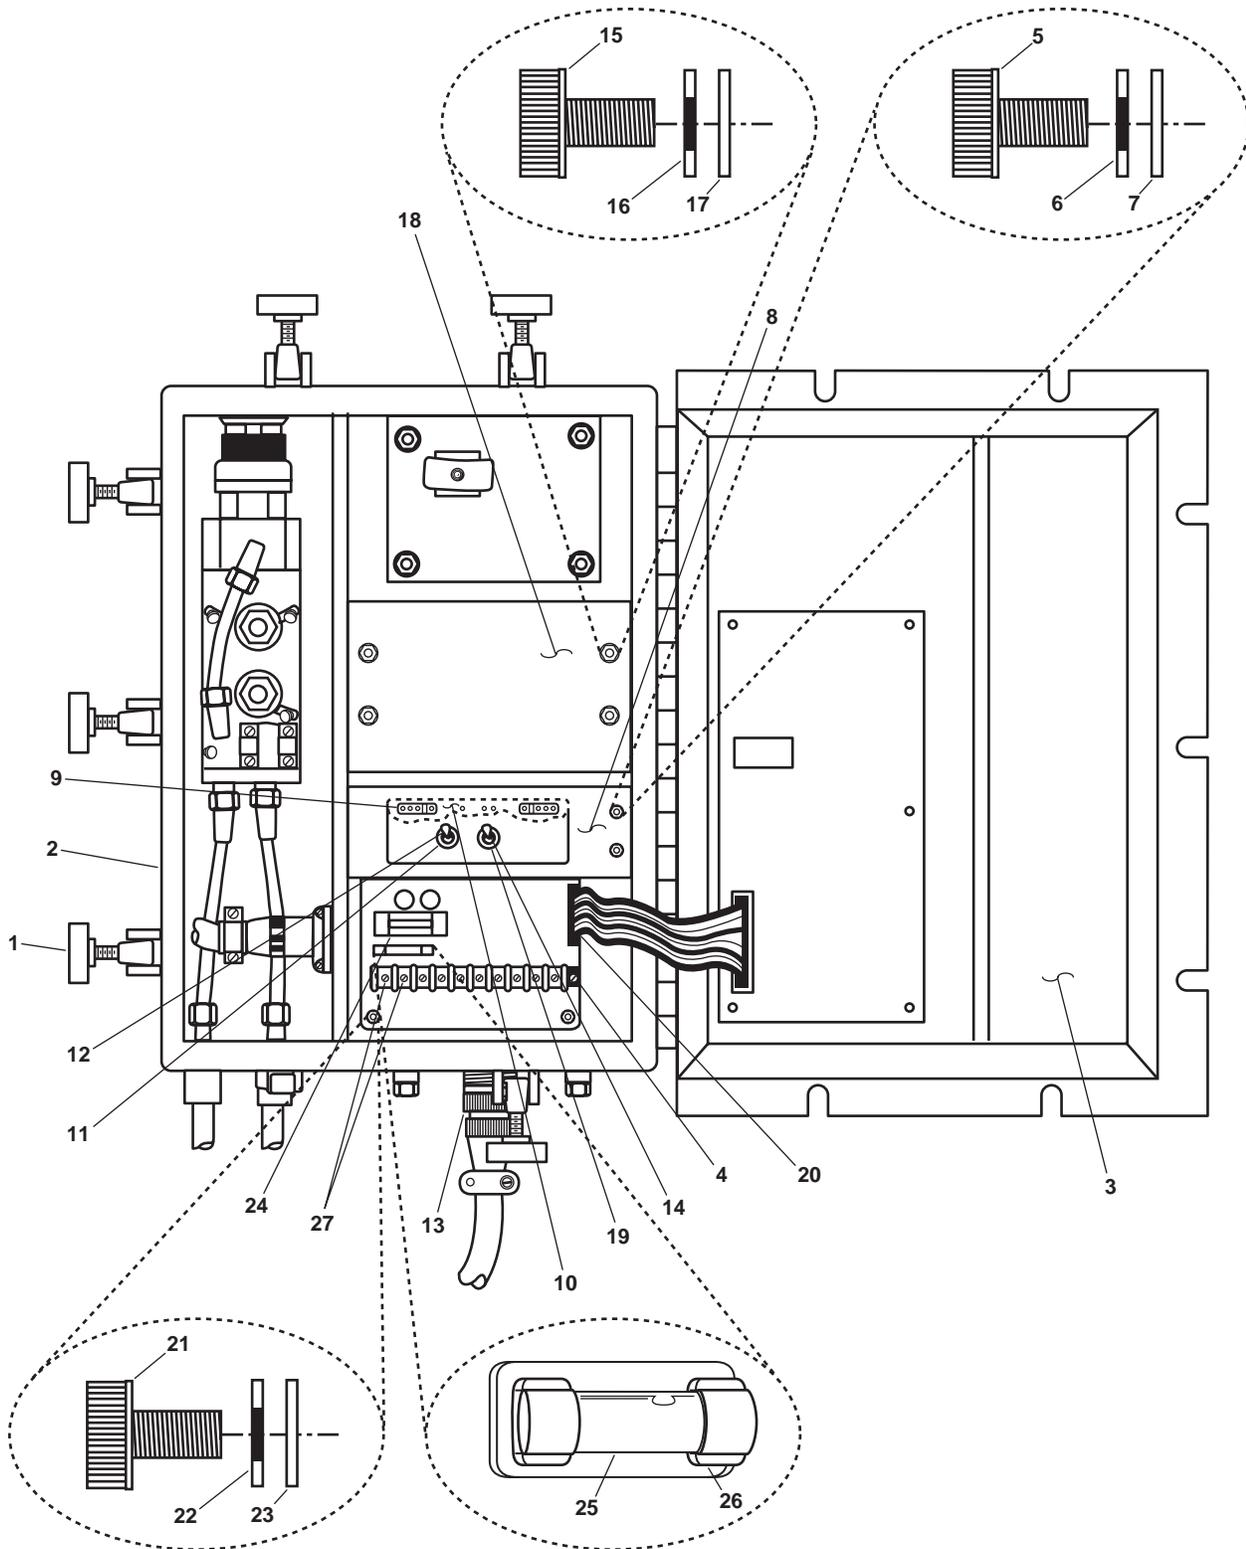
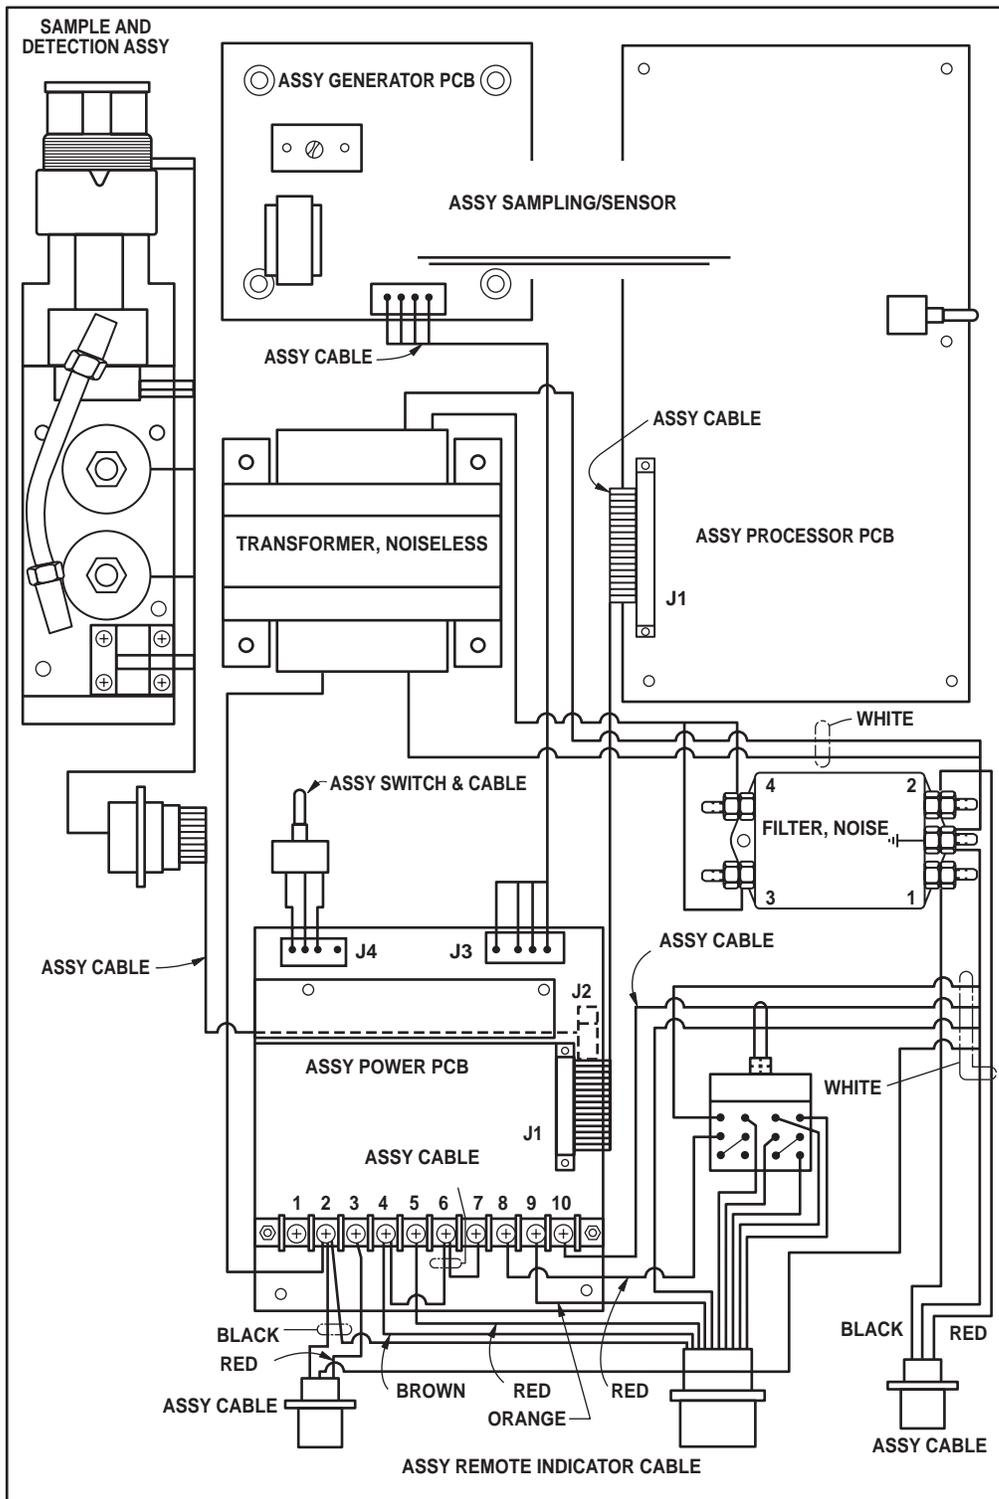
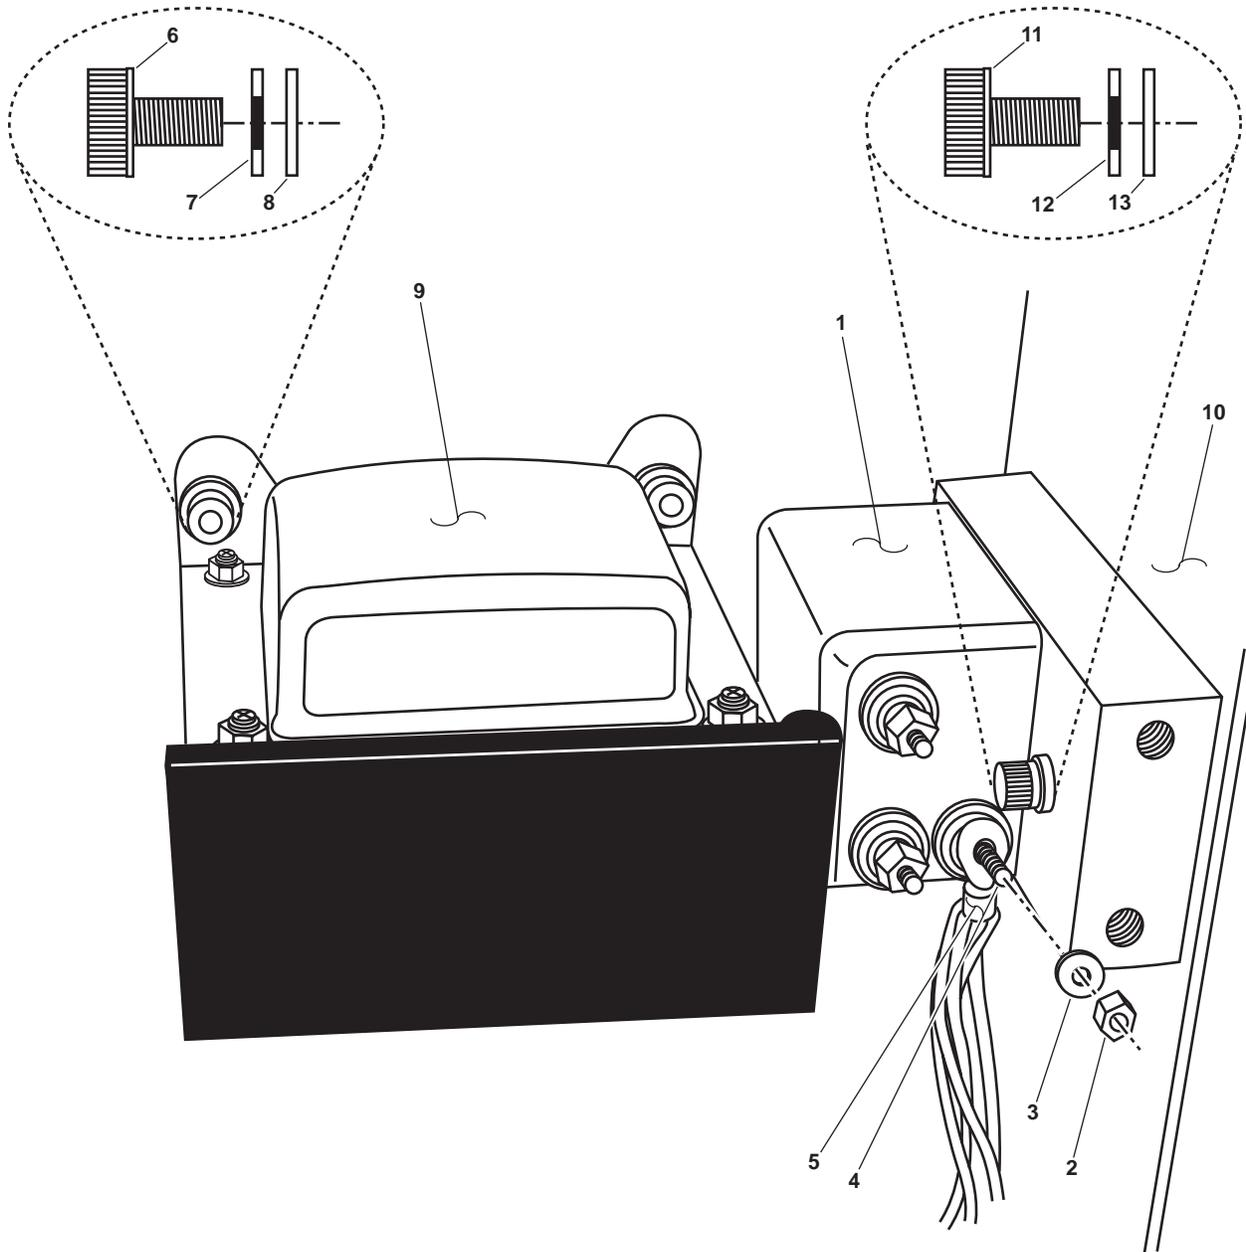

Figure 1. Sampling/Sensor Assembly
Figure 2. Sampling/Sensor Assembly Wire Schematic
Figure 3. Transformer and Noise Filter Assembly
1. Loosen the seven hand nuts (figure 1, item 1) securing the sampling/sensor assembly (figure 1, item 2) and open the door (figure 1, item 3).
2. Using a multimeter, check for available voltage at the Power Printed Circuit Board (PCB) terminal (figure 1, item 4). If voltage is present, check that the proper circuit breaker is locked out and tagged out (FM 55-502). If no voltage is present, continue with the procedure.
3. Remove the four cap screws (figure 1, item 5), four lockwashers (figure 1, item 6), and four flat washers (figure 1, item 7) securing the switch plate assembly (figure 1, item 8). Discard the lockwashers.
4. Remove the switch plate assembly (figure 1, item 8) from the sampling/sensor assembly (figure 1, item 2) and disconnect the OPERATION SELECTOR switch A1S1 cable assembly (figure 1, item 9) from the POWER PCB connector (figure 1, item 10).
5. Remove the nut (figure 1, item 11) from OPERATION SELECTOR switch A1S1 (figure 1, item 12).
6. Remove OPERATION SELECTOR switch A1S1 (figure 1, item 12) from the switch plate assembly (figure 1, item 8).
7. Label and disconnect the color coded wires from the POWER PCB terminal (figure 1, item 4) that connects the ten-wire electrical connector (figure 1, item 13) (black, brown, red, orange) and ALARM LIMIT (PPM) SELECTOR switch A1S2 (figure 1, item 14) (red). Refer to figure 2.
8. Remove the four cap screws (figure 1, item 15), four lock washers (figure 1, item 16), and four flat washers (figure 1, item 17) securing the transformer hold down plate (figure 1, item 18). Discard the lock washers.
9. Remove the transformer hold down plate (figure 1, item 18) to gain access to the noise filter (figure 3, item 1).
10. Remove the nut (figure 3, item 2) and the flat washer (figure 3, item 3) from ground stud (figure 3, item 4) of the noise filter (figure 3, item 1). Label and remove the wiring (figure 3, item 5) from the noise filter.
11. Remove the nut (figure 1, item 19) from ALARM LIMIT (PPM) SELECTOR switch A1S2 (figure 1, item 14).
12. Remove ALARM LIMIT (PPM) SELECTOR switch A1S2 (figure 1, item 14) from the switch plate assembly (figure 1, item 8).
13. Carefully remove any tiedown straps holding ALARM LIMIT (PPM) SELECTOR switch A1S2 (figure 1, item 14) wires to the enclosure or other wire bundles.
1. Install ALARM LIMIT (PPM) SELECTOR switch A1S2 (figure 1, item 14) into the switch plate assembly (figure 1, item 8).
2. Install the nut (figure 1, item 19) on the ALARM LIMIT (PPM) SELECTOR switch A1S2 (figure 1, item 14).
3. Connect the wiring (figure 3, item 5) to the ground stud (figure 3, item 4) of the noise filter (figure 3, item 1) and secure it with the flat washer (figure 3, item 3) and the nut (figure 3, item 2).
4. Install the transformer hold down plate (figure 1, item 18) and secure it with the four cap screws (figure 1, item 15), four new lockwashers (figure 1, item 16), and four flat washers (figure 1, item 17).
5. Connect the color coded wires to the POWER PCB terminal (figure 1, item 4) that connects the ten-wire electrical connector (figure 1, item 13) (black, brown, red, orange) and the ALARM LIMIT (PPM) SELECTOR switch A1S2 (figure 1, item 14)(red).
6. Install OPERATION SELECTOR switch A1S1 (figure 1, item 12) in the switch plate assembly (figure 1, item 8).
7. Install the nut (figure 1, item 11) on OPERATION SELECTOR switch A1S1 (figure 1, item 12).
8. Install the switch plate assembly (figure 1, item 8) into the sampling/sensor assembly (figure 1, item 2) and connect OPERATION SELECTOR switch A1S1 cable assembly (figure 1, item 9) to the POWER PCB (figure 1, item 10).
9. Install the four cap screws (figure 1, item 5), four new lockwashers (figure 1, item 6), and four flat washers (figure 1, item 7) in the switch plate assembly (figure 1, item 8).
12. Install tiedown straps as required being careful not to pull any ALARM LIMIT (PPM) SELECTOR switch A1S2 (figure 1, item 14) wiring from its connection points. Install tie wraps as required to hold the wires to the sampling/sensor assembly (figure 1, item 2) or other wire bundles.
13. Close the sampling/sensor assembly's (figure 1, item 2) door (figure 1, item 3) and tighten the seven hand nuts (figure 1, item 1).
Refer to the sampling/sensor assembly wire schematic (figure 2) for clarity of the color coded wire and junction locations.